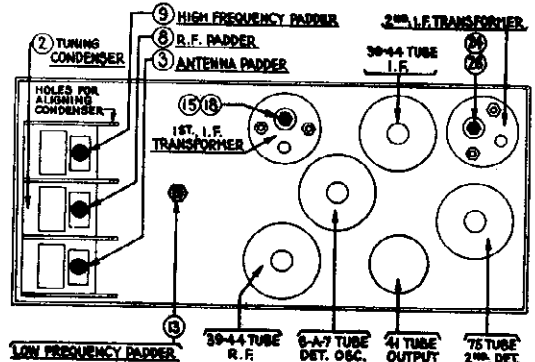

FIGURE 11
Remove the lid from the Receiver. Remove the grid cap from the 6A7 tube (for location see Figure 11).
Set up the signal generator and adjust it to exactly 260 K. C. Connect the generator lead to the grid cap of the 6A7 tube. (See Figure 11.) The output meter must be connected by means of an adapter to the small prong of the speaker plug and to the chassis.
The padders (2) and (3) are adjusted first (Figures 11 and 12). Turn the adjusting screw (2) all the way in. A metal screw-driver can be used for this. Then, with generator attenuator set so there is approximately half-scale reading, adjust the nut (3) with a fibre wrench for the maximum reading on the output meter.
There are four holes in line, one in each of the sections of the tuning condenser housing. (See Figure 11.) Place a nail of the size that fits snugly through the holes and then turn the condenser plates out of mesh until they strike against the nail.